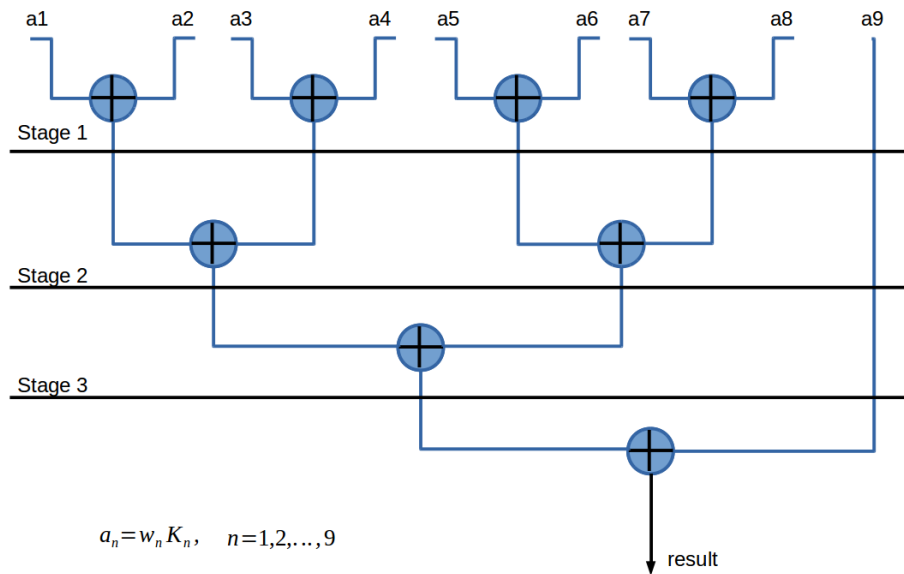

Figure 3: Adder Tree.
2. Implement the adder tree given in Fig. 3 using Pipeline method and  $*$ ,  $+$  operators. Notice that, for each pipeline stage, you need the store the operation results at proper registers.